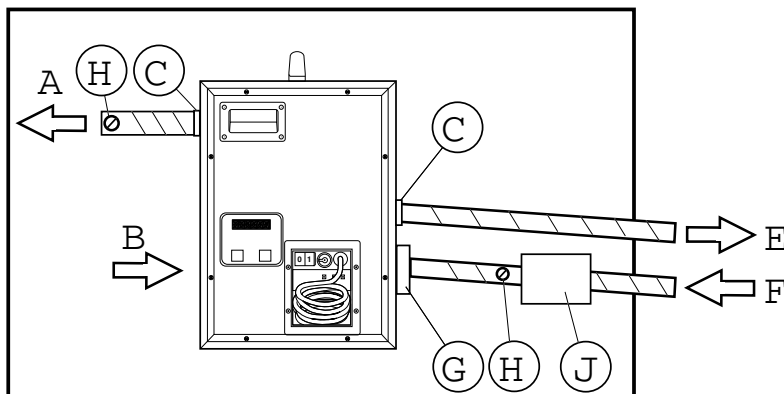

Figure 4.3 Outdoor reactivation air.
*In case of outdoor reactivation air as in Figure 4.3, the distance between the inlet and the wet air outlet must be at least 1 m.*